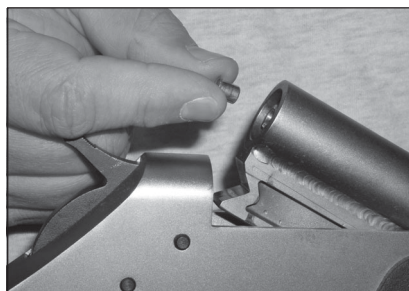

Figure 6
14. **WITH GUN POINTED IN SAFE DIRECTION** and hammer in the forward/rested position, place a 209 primer into the breech plug. **THE GUN IS NOW LOADED.** (See Figure 6).